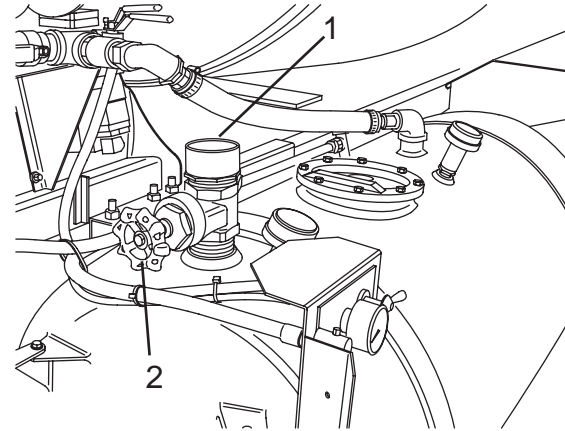

Figure 79
2. Open the chemical tank gate valve (Figure 79, Item 2) and fill the chemical through the inlet (Figure 79, Item 1).
3. Connect a water supply hose to the inlet (Figure 79, Item 1) and fill tank.